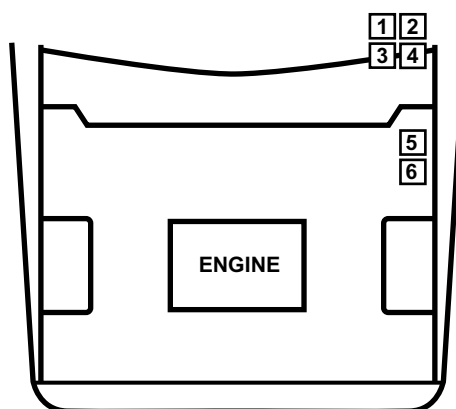

Figure 15-3 Justy common connector locations
- “Justy common connector locations” on page 177 (Table 15-3, Figure 15-3)